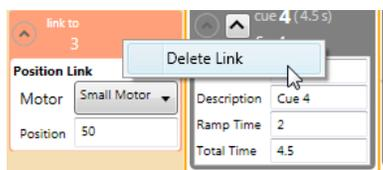

Figure 249
1. Right-click on the **Link** in the **Cue Grid** and select **Delete Link** (Figure 249).